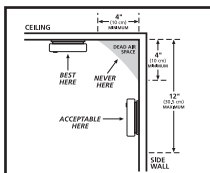

FIGURE 1
- When mounting an alarm on the ceiling, locate it at a minimum of 4" (10 cm) from the side wall (see figure 1).
- When mounting the alarm on the wall, use an inside wall with the top edge of the alarm at a minimum of 4" (10 cm) and a maximum of 12" (30.5 cm) below the ceiling (see figure 1).
- In homes that are not well insulated, extreme heat or cold can be transferred from the outside to the inside through poorly insulated walls and roof. This may create a thermal barrier which can prevent the smoke from reaching an alarm mounted on the ceiling. If you are not sure about the insulation in your home, or if you notice that the outer walls and ceiling are either hot or cold, install the alarm on an inside wall. In such homes, install the smoke alarm with the top edge of the alarm at a minimum of 4" (10 cm) and a maximum of 12" (30.5 cm) below the ceiling (see figure 1).
Modern mobile homes have been designed and built to be energy efficient. Install smoke alarms as recommended above (refer to RECOMMENDED LOCATIONS and Figures 1 and 2). In older mobile homes that are not well insulated compared to present standards, extreme heat or cold can be transferred from the outside to the inside through poorly insulated walls and roof. This may create a thermal barrier which can prevent the smoke from reaching an alarm mounted on the ceiling. In such units, install the smoke alarm on an inside wall with the top edge of the alarm at a minimum of 4” (10cm) and a maximum of 12” (30.5cm) below the ceiling (see figure 1).